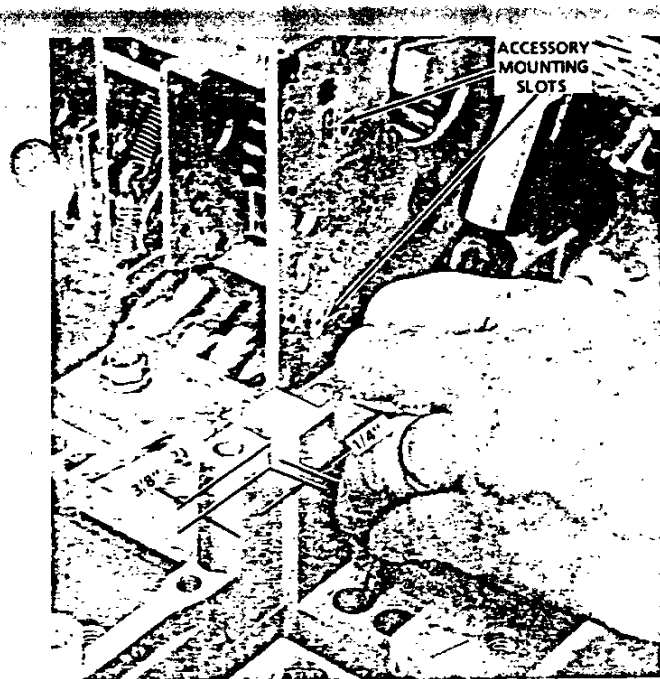
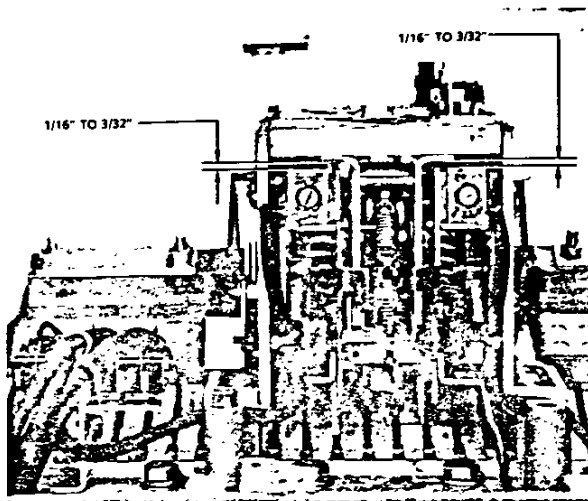

FIGURE 9
FIGURE 10
2. Punch out a knockout as shown in Fig. 9 unless there are already accessories installed and sufficient room to add the wires to an existing hole. If the breaker does not have the
Fig. 9 shows the slot and knockout for a right side shunt trip. If a left side shunt trip is to be installed, do the work on the left pole and wall.
3. Position the shunt trip as shown in Fig. 10, then install the mounting screws through the slots shown in Fig. 9 into the tapped holes in the shunt trip but do not tighten.
7. Remove the left hex bolt in the appropriate outer pole, discard the plain washer, and use the bolt and lockwasher to install the auxiliary switch as shown in Fig. 10. Hold the switch assembly straight while tightening the bolt to 30 inch pounds torque.